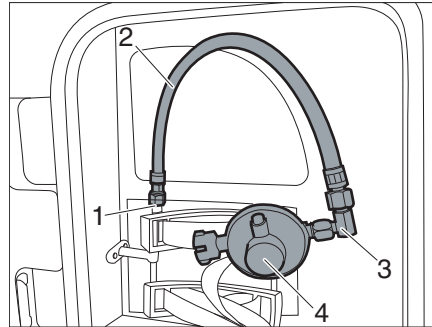

Fig. 28 Gas tube with gas pressure regulator
- Screw the elbow (Fig. 28,3) onto the gas tube (Fig. 28,2).
- Screw the gas pressure regulator (Fig. 28,4) onto the elbow.
- Screw the gas tube (Fig. 28,2) with the gas pressure regulator onto the connecting piece (Fig. 28,1).